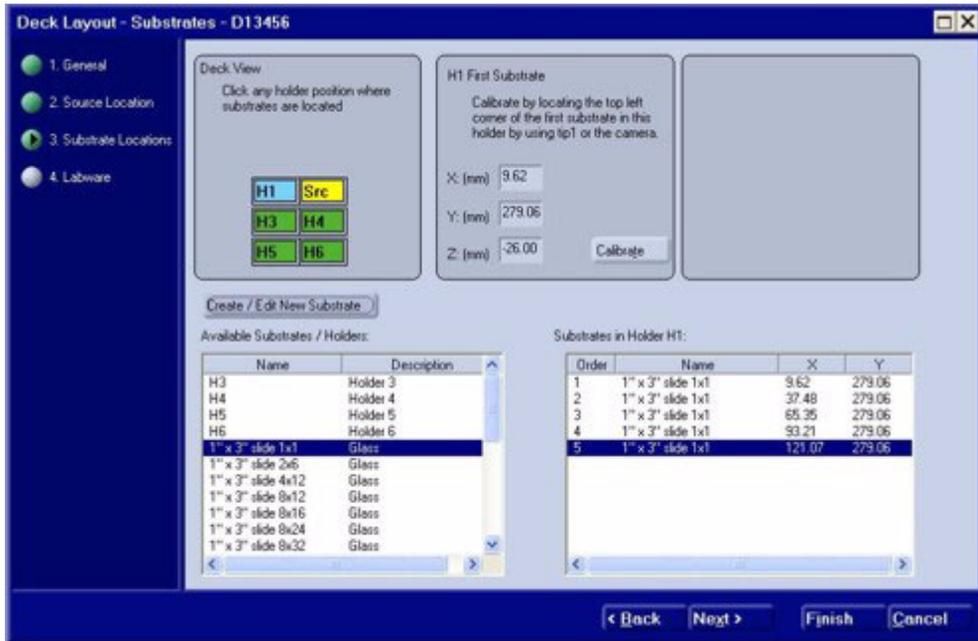

Figure 3-7. Deck Layout Definition - Substrate Page.
7. Click the  button to advance to the Substrates page of the Deck Layout definition (Figure 3-7).